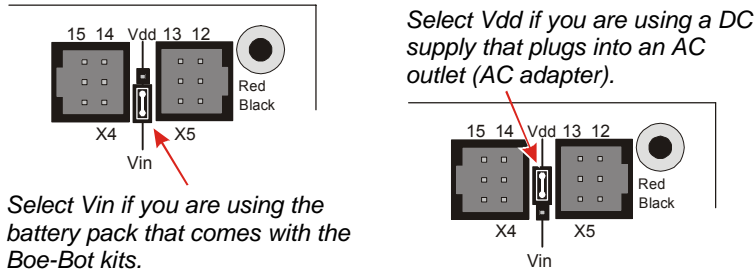

Figure 2-12
Figure 2-12 shows the servo header on the Board of Education Rev C. This board features a jumper that you can use to connect the servo's power supply to either Vin or Vdd. To move it, you have to pull it upwards and off the pair of pins it rests on, then push it onto the pair of pins you want it to rest on.
- √ If you are using the 6 V battery pack, make sure the jumper between the servo ports on the Board of Education is set to Vin as shown on the left of Figure 2-12.
- √ If you are using a 7.5 V, 1000 mA center positive DC supply, set the jumper to Vdd as shown on the right side of Figure 2-12.